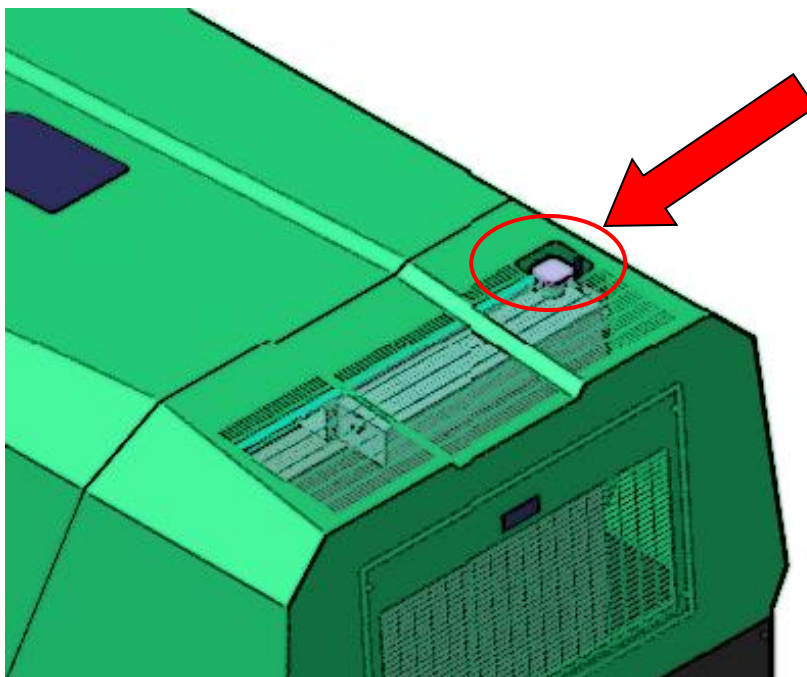

Figure 10.1.3 Checking the engine coolant in the radiator
6) If the air compressor is equipped with a liquid-cooled diesel engine, check the level of the engine coolant contained in the radiator (Figure 10.1.3).
WARNING: *The radiator cap (Figure 10.1.3) must never be removed when the engine is hot; this would cause a sudden outflow of liquid which might result in severe scalding. Topping off, if required, must be done with a mixture of water and anti-freeze in the percentage indicated on the container.*